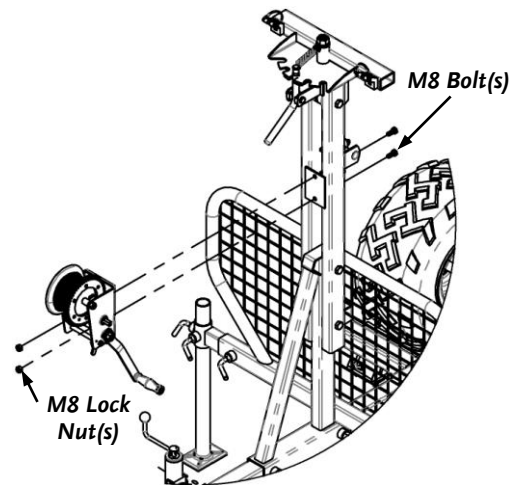

Figure 30
2. With the assistance of a second person, install the Winch (**Figure 30**), with the Crank Handle facing to the Left, using two M8 x 30mm Bolts, and Lock Nuts. Tighten using a 12mm Socket w/Extension for the Lock Nuts and a 13mm Wrench for the Bolts. Reinstall the Boom Swivel Bracket.